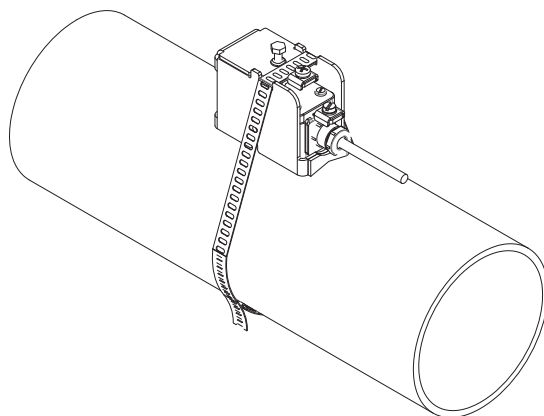

Fig. 6.4: Mounted transducer in transducer shoe
- Position the clasp on the side of the pipe and place the tension strap around the pipe (see Fig. 6.4).